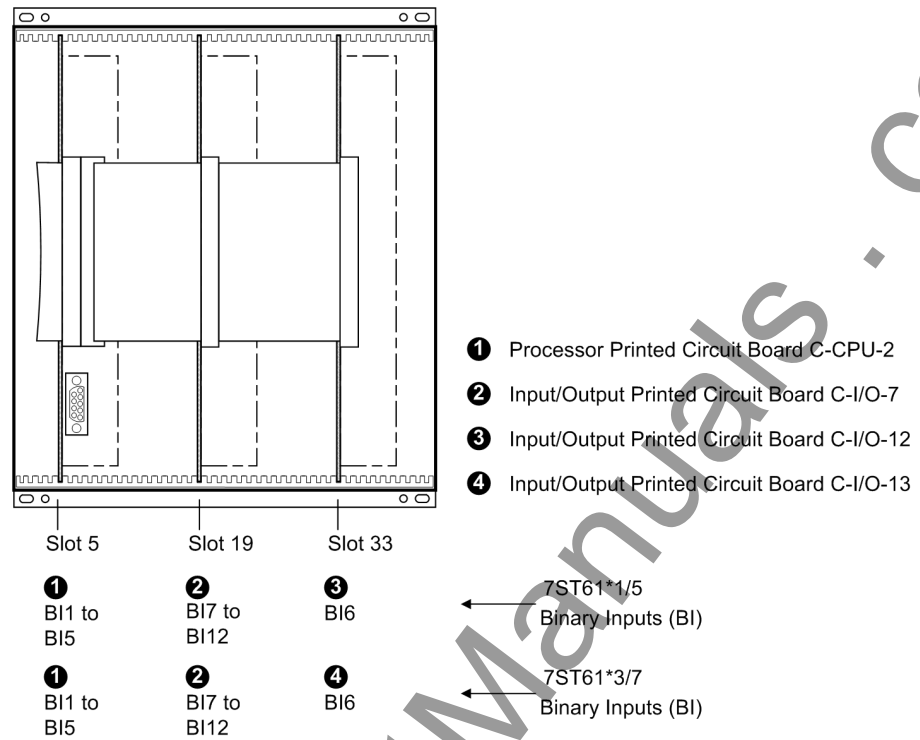
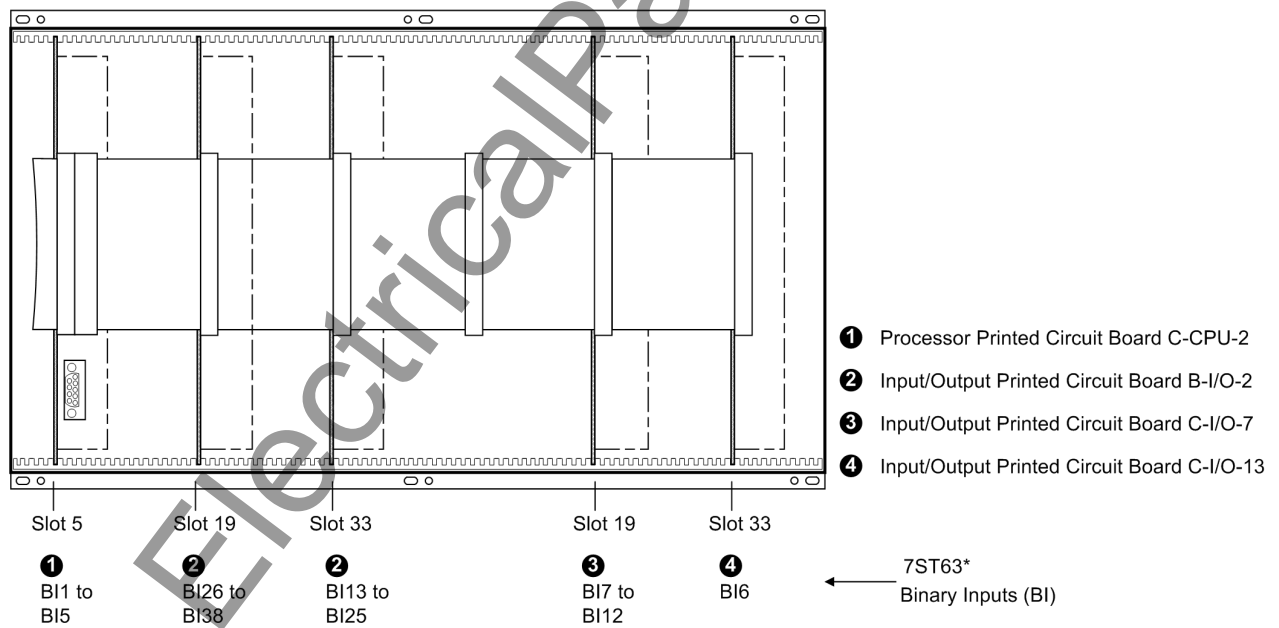

Figure 3-3 Front view with housing size  $\frac{1}{2}$  after removal of the front cover (simplified and scaled down)
Figure 3-4 Front view with housing size  $\frac{1}{1}$  after removal of the front cover (simplified and scaled down)
The assembly of the boards for the housing size  $1\frac{1}{2}$  is shown in Figure 3-3 and for the housing size  $1\frac{1}{1}$  in Figure 3-4.
- In versions 7ST6 1 \* 1/5 (housing size  $1\frac{1}{2}$  with 27 binary outputs), this is valid for the binary outputs BO14, BO15, BO25 and BO26 (figure 3-3, slot 19).
- In versions 7ST6 1 \* 3/7 (housing size  $1\frac{1}{2}$  with 22 binary outputs), this is valid for the binary outputs BO9, BO10, BO20 and BO21 (figure 3-3, slot 19).
- In versions 7ST6 3 \* 3/7 (housing size  $1\frac{1}{2}$  with 36 binary outputs), this is valid for the binary outputs BO9, BO10, BO20 and BO21 (figure 3-4, slot 19 right);
The mounting locations are shown in Figures 3-3 to 3-4.